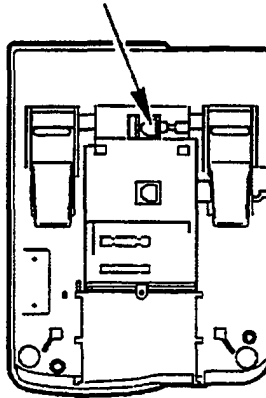

Figure 1-51 Connecting a Multiline Terminal to the System
1. Plug a telephone cord into the modular jack on the bottom side of the Multiline Terminal. (Refer to Figure 1-51 - Connecting a Multiline Terminal to the System.)